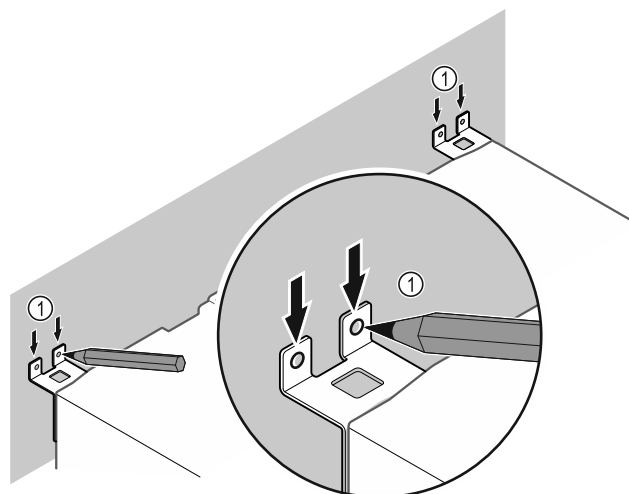

Fig. 12
- ▶ Make markings on the wall Fig. 12 (1).